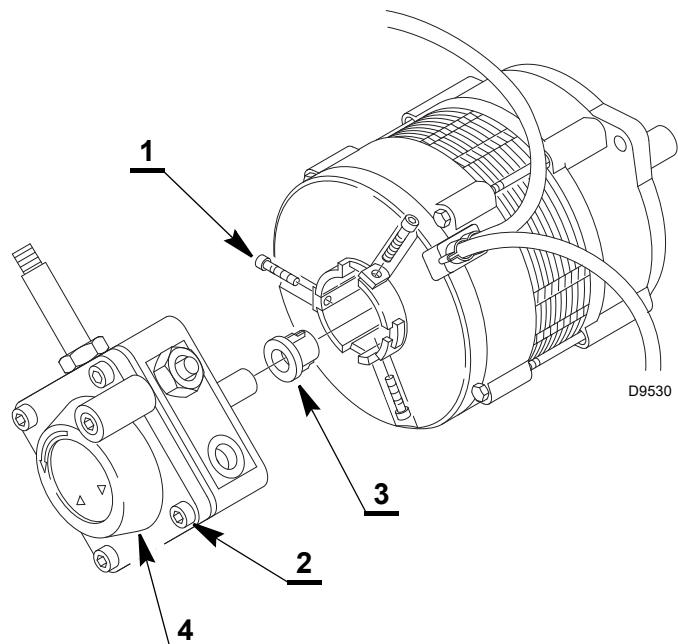

Fig. 6
- block the pump by uniformly tightening the 3 screws 1) (Fig. 6) - recommended tightening torque  $3 \pm 0.3 \text{ Nm}$ .
- loosen and remove the 4 fixing screws 2) (Fig. 6) of the cover 4) and check the condition of the fuel filter.